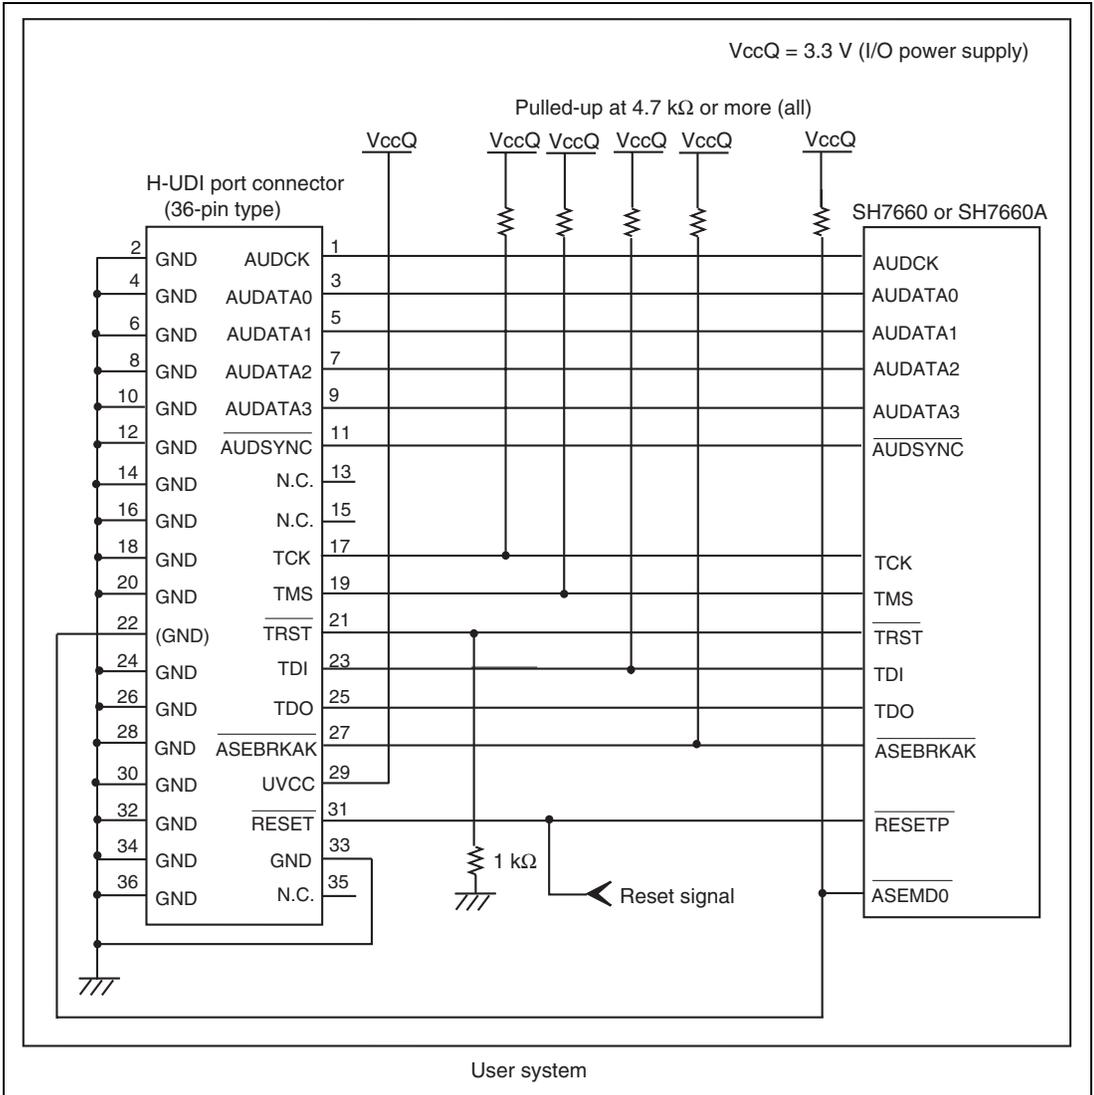
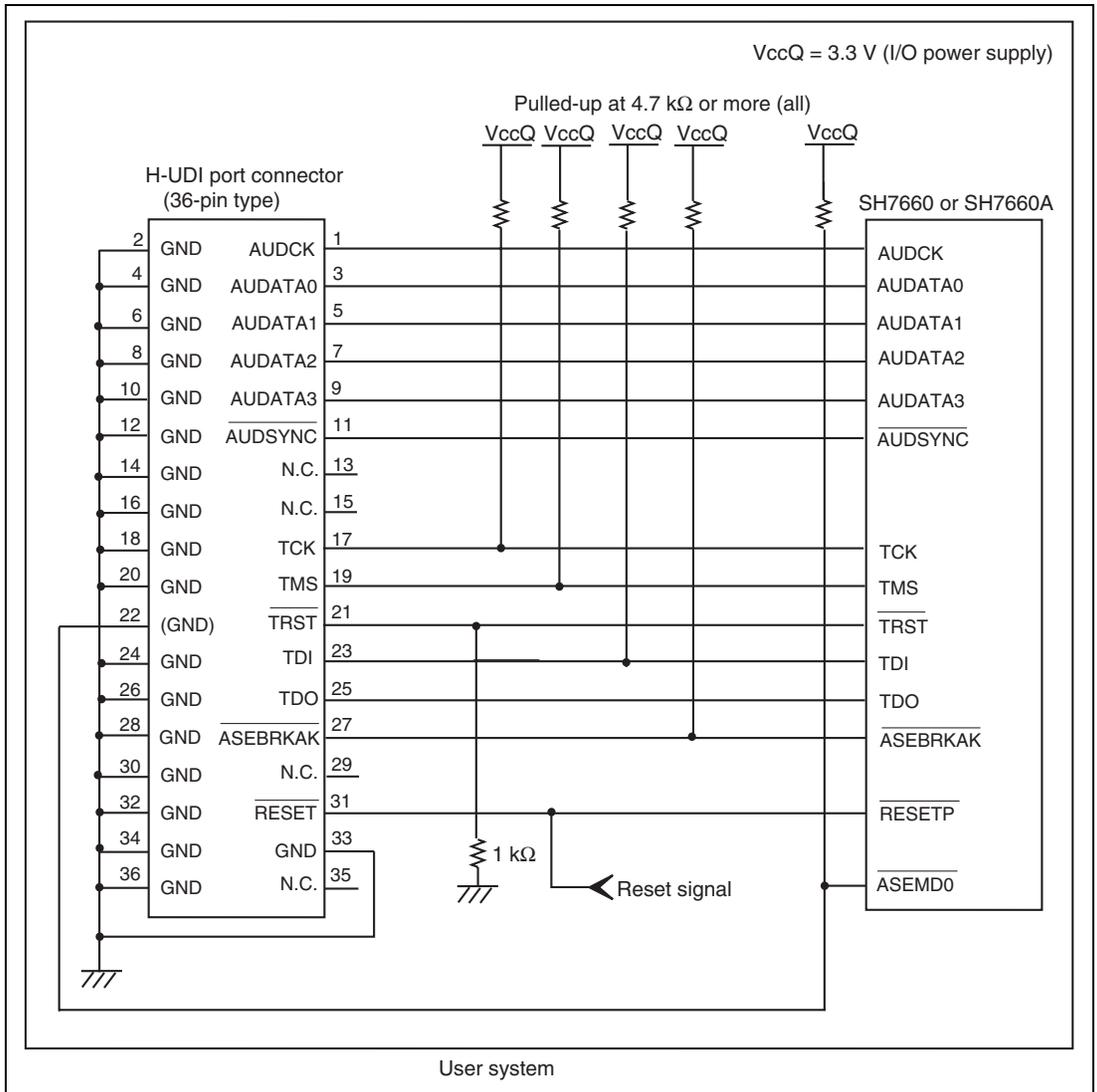

Figure 1.3 Recommended Circuit for Connection between the H-UDI Port Connector and MPU when the Emulator is in Use (36-Pin Type UVCC Connected)
Figure 1.4 Circuit for Connection between the H-UDI Port Connector and MPU when the Emulator is in Use (36-Pin Type UVCC Not Connected*)
Figure 1.3 shows a recommended circuit for connection between the H-UDI and AUD port connectors (36 pins) and the MPU when the emulator is in use. Figure 1.4 shows a circuit for connection when UVCC is not connected.
- (1) When the emulator is used: /ASEMD0 = 0
- (2) When the emulator is not used: /ASEMD0 = 1Figures 1.3 and 1.4 show examples of circuits that allow the /ASEMD0 pin to be GND (0) whenever the emulator is connected by using the user system interface cable. When the /ASEMD0 pin is changed by switches, etc., ground pin 22. Do not connect this pin to the /ASEMD0 pin.
5. When the power supply of the user system is turned off, supplying VccQ of the user system to the UVCC pin reduces the leakage current from the emulator to the user system. A level shifter that is activated by the internal power supply or user power supply (changed by the switch) is installed in the interface circuit of the emulator. If the user power is supplied to the UVCC pin, the level shifter is not activated as long as no user power is supplied. When the power supply of the user system is turned off, no current flows from the user interface. The I/O voltage level of the user system interface can be the same as that of the VccQ. To operate the emulator with low voltage (lower than 3.3 V), the VccQ must be supplied to the UVCC pin. Make the emulator's switch settings so that the VccQ will be supplied (SW2 = 1 and SW3 = 1) (as shown in figure 1.3).
When the circuit is connected as shown in figure 1.3, the switches of the emulator are set as SW2 = 1 and SW3 = 1. For details, refer to section 3.8, Setting the DIP Switches, in the SuperH™ Family E10A-USB Emulator User's Manual.
When the circuit is connected as shown in figure 1.4, the switches of the emulator are set as SW2 = 0 and SW3 = 1. For details, refer to section 3.8, Setting the DIP Switches, in the SuperH™ Family E10A-USB Emulator User's Manual.